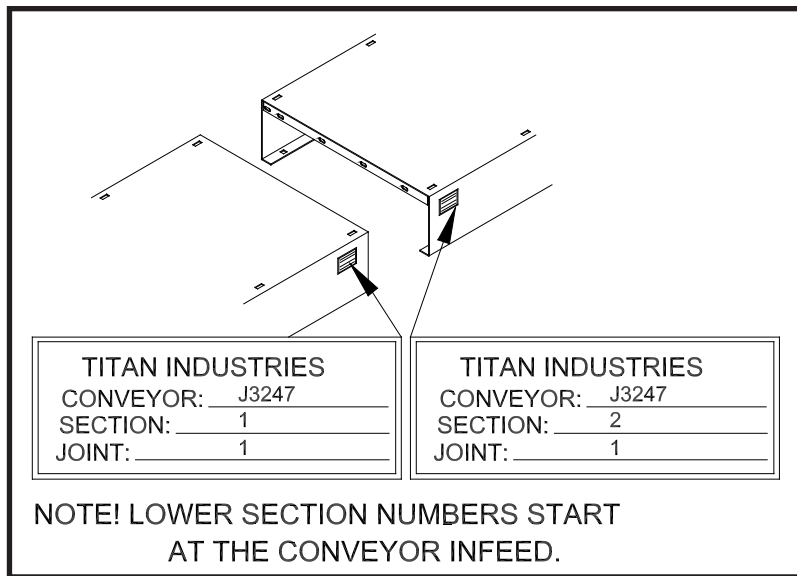

FIGURE 1
**NOTE: If several sections of frame are to be joined in a particular sequence, they will be factory matched marked. See FIGURE 1.**